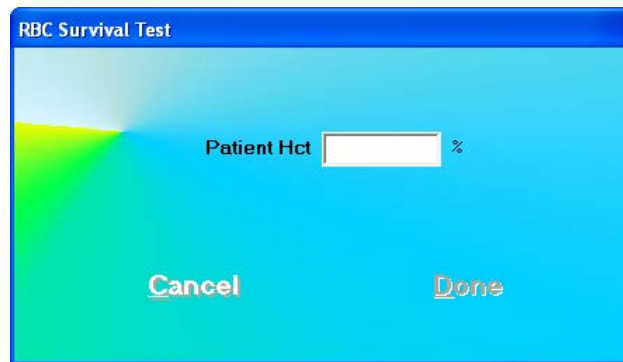

Figure 10-75
4. First, the screen prompts you to input the hematocrit value in % for the patient, as shown in Figure 10-75. Input the value and click the **Done** button or press *Alt+D*.